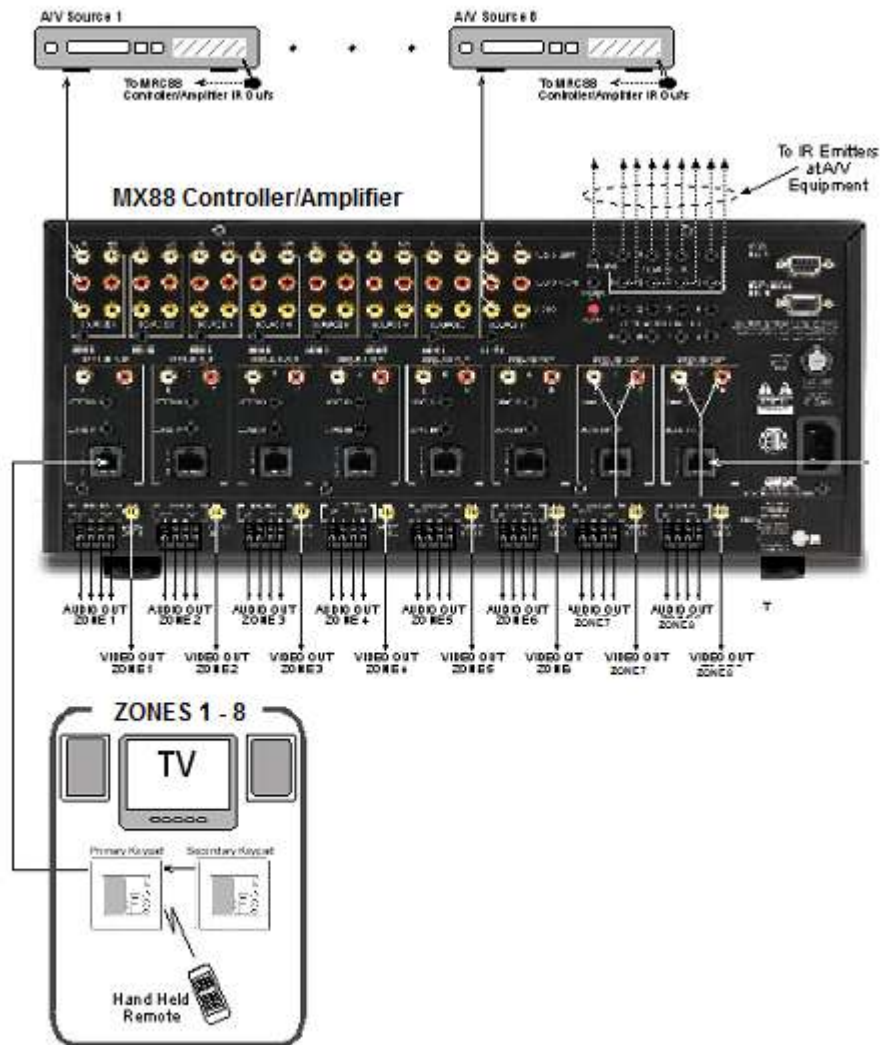

Figure 6 –Typical 8-Zone MX88 System
- If no MX88-compatible wired keypads or touch-panels are used in a particular zone, IR Receivers and/or IR based Keypads may be used as shown in **Figure 6** below, using the MRC44CB1 Connecting Block. This set up works for:
To better demonstrate the ease and versatility of programming the MX88, **Figure 6** will be used to illustrate setup for a typical application.
- Assemble the components into a working MX88 system such as that shown in **Figure 6 or 7**.